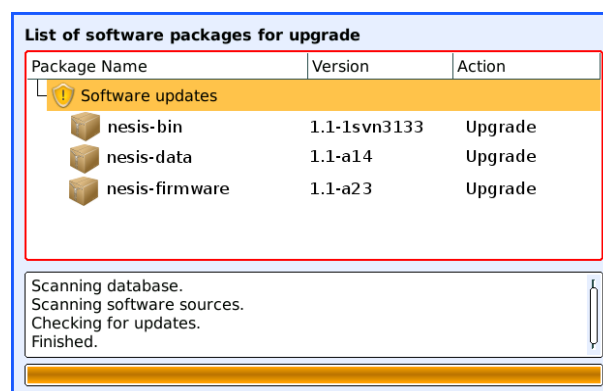

Figure 35: An example of the update dialog where list of available updates is shown.
1. Select the **Software Update** icon and enter the required password. After the dialog is shown, a list of updates appears on the screen. An example is shown on the figure 35. Nesis automatically hides the packages, which shouldn't be updated. This means that you usually see less packages than stored in the USB stick.